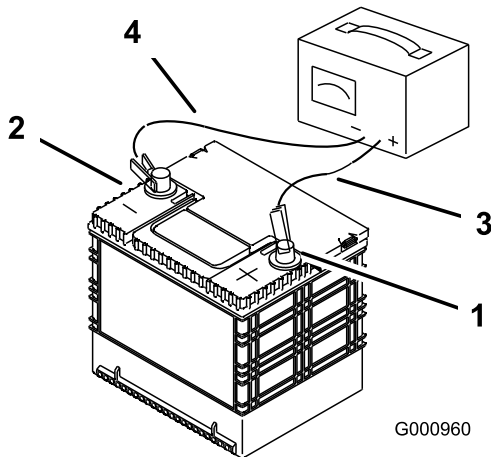

Figure 57
- When the battery is fully charged, unplug the charger from the electrical outlet, then disconnect the charger leads from the battery posts (Figure 57).